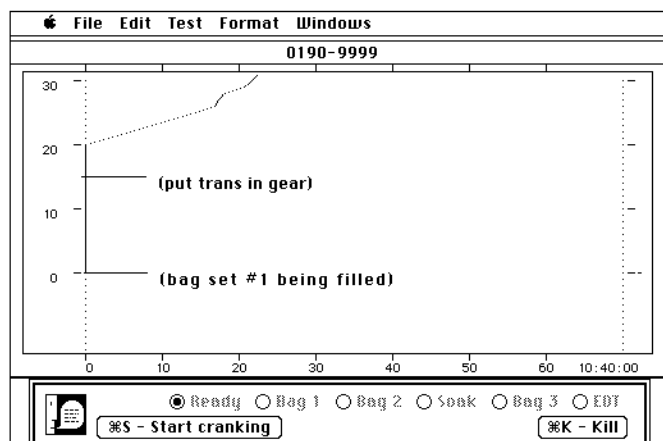

Figure 3
- 304 Before starting the engine, ensure that the “Ready” indicator on the bottom of the VDA screen is on. See Figure 3 for the FTP and 3A for the HFET. If the test type is HFET, go to Step 339